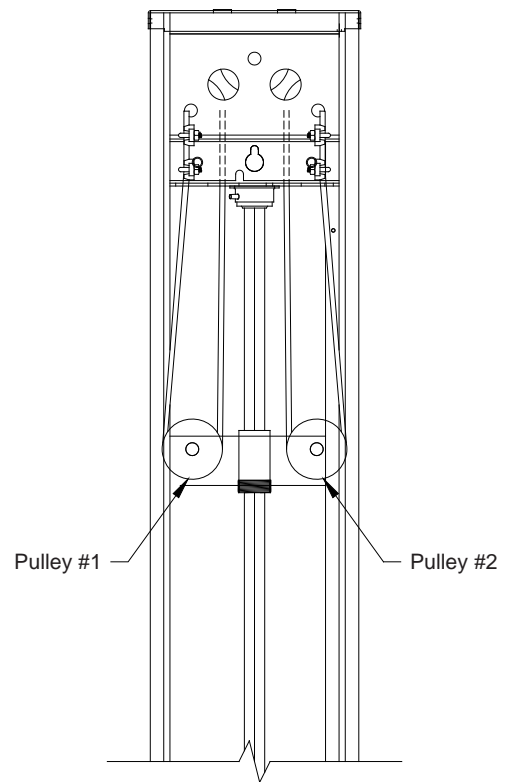

Figure 7A
If optional Internal Double-Back was purchased, route left drive cable down inside of curtain machine on right side of Pulley #1. Route right drive cable to left side of Pulley #2. Wrap drive cables around bottom of its corresponding pulley, and take each drive cable to upper bulkhead and through its corresponding hole. Using (2) cable clamps, attach (1) cable clamp 1" from cable end and (1) cable clamp below, but as close as possible to the first cable clamp. See Figures 7A. Refer to Steps 4-7 for cable routing options.